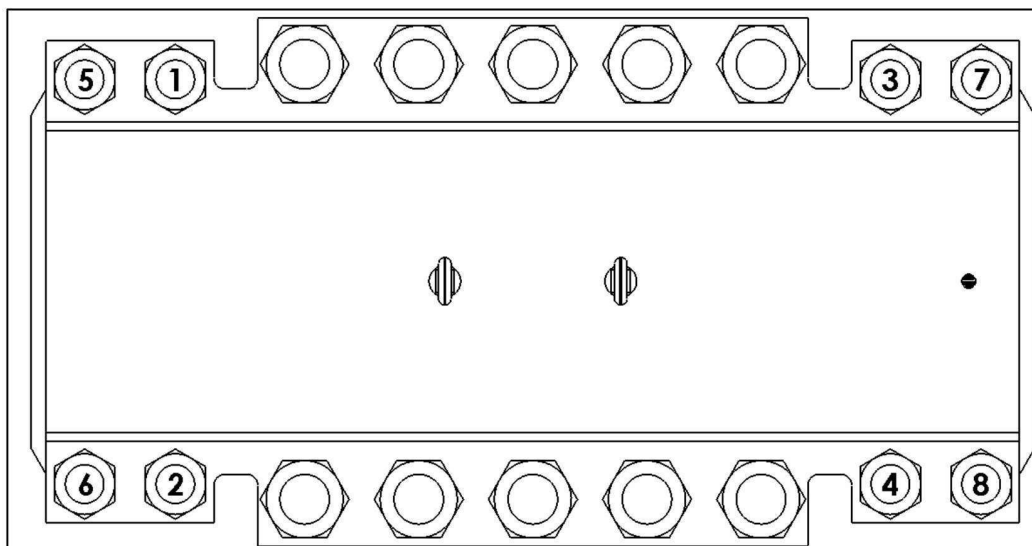

Figure 8
8. Torque the clamp section studs uniformly as indicated by the corresponding value per stud size from the **Torque Values for Clamping Section** in the *PLIDCO Torque Chart for Clamp+Sleeves* located on the last page. Note that the sidebars in the sealing section are gapped approximately 1/8 inch (3.2 mm) or less when the PLIDCO Clamp+Sleeve is fully tightened. The gap between the side bars in the clamping section is typically greater than the sealing section and is dependent on pipe size. The sequence for torquing the studs should follow the pattern of Figure 8, and should be executed repeatedly as follows: